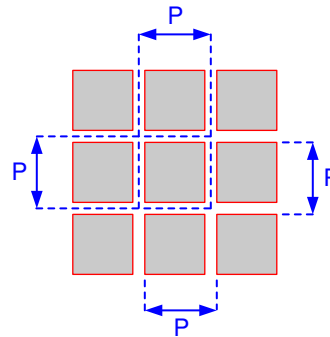

Figure 6-8. Micromirror Array Physical Characteristics
(1) See Figure 6-8.
(2) The structure and qualities of the border around the active array include a band of partially functional micromirrors called the “pond of micromirrors” (POM). These micromirrors are structurally and/or electrically prevented from tilting toward the bright or “on” state but still require an electrical bias to tilt toward “off.”
(3) Out of the eight POM rows on the top and bottom, only the one POM row closest to the active array is electrically attached to that reset group. The other seven POM rows are attached to a dedicated POM internal reset driver circuit.